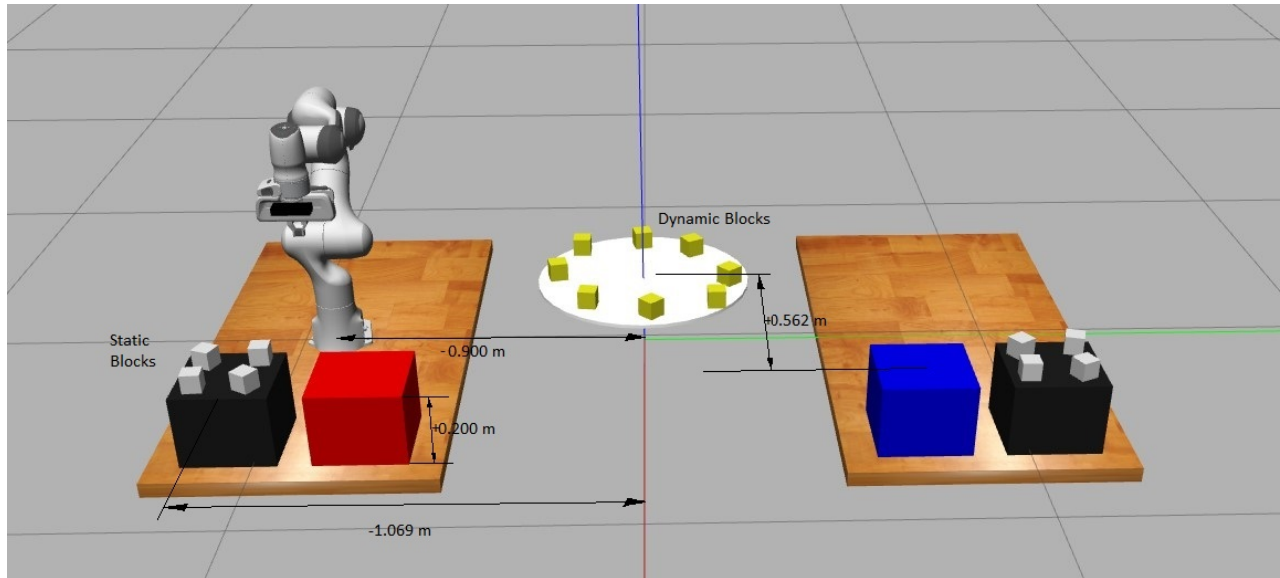

Figure 1: Final project environment
2. Each match will consist of two teams (designated Red Team and Blue Team) competing head to head in a shared environment, shown in Fig. 1.